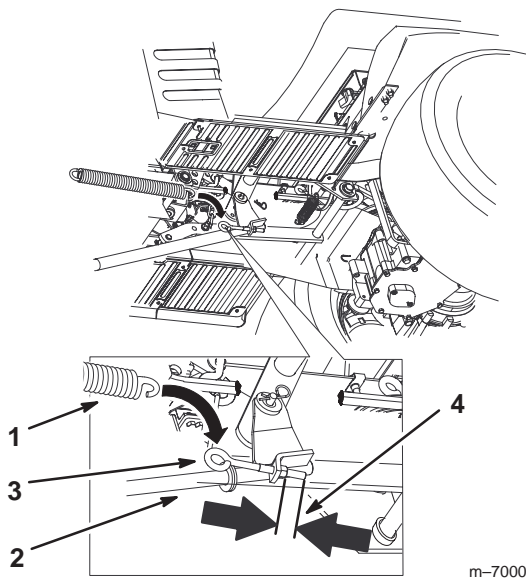

Figure 21
11. Install the lift spring into the lifttube eyebolt (fig. 21).
12. Adjust the eye bolt until there is 1 inch (26 mm) of the threads past the nut (fig. 21).